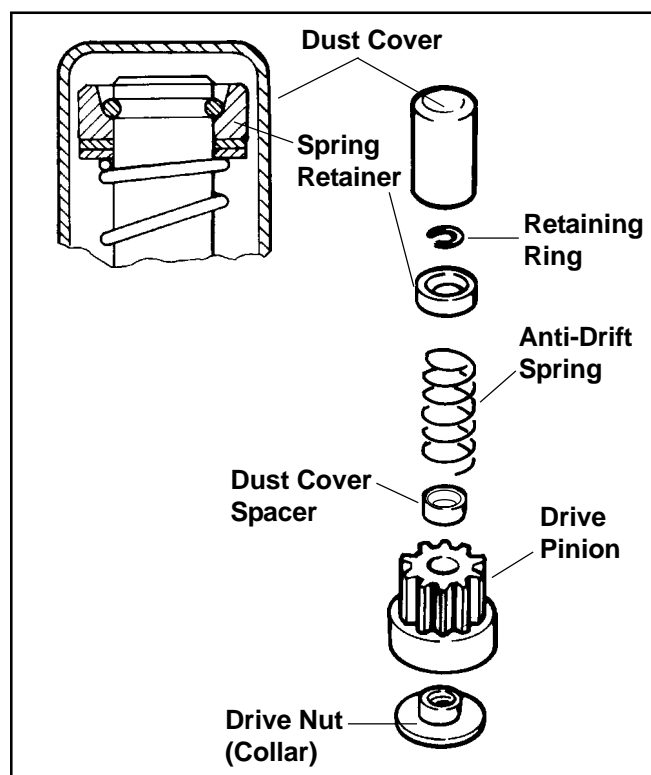

Figure 8-31. Drive Components, "Bonded" Inertia Drive Starter.
1. The rubber dust cover has a molded lip on the inside that snaps into a groove in the dust cover spacer (see Figure 8-31). Turn the drive pinion clockwise until it reaches the fully extended position. While holding it in the extended position, grasp the tip of the dust cover with a pliers or vise grip and pull it free from the spacer.
3. Again referring to Figure 8-31, grasp the spring retainer and push it toward the starter, compressing the anti-drift spring and exposing the retaining ring.